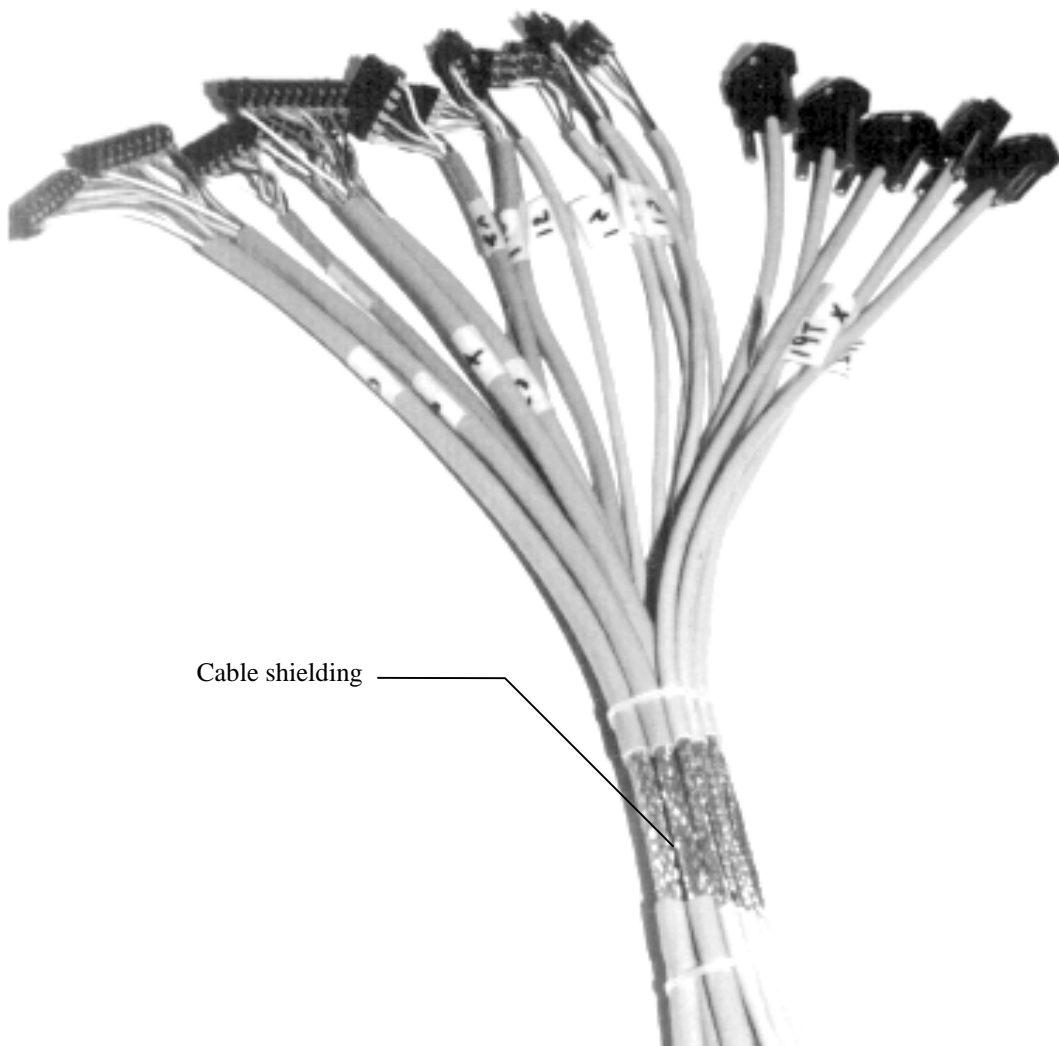

Fig. 3
- Figure 3 represents the end of the bunch of cables which will be connected to the DNC. The numbering which allows to easily pick out each cable can clearly be seen.